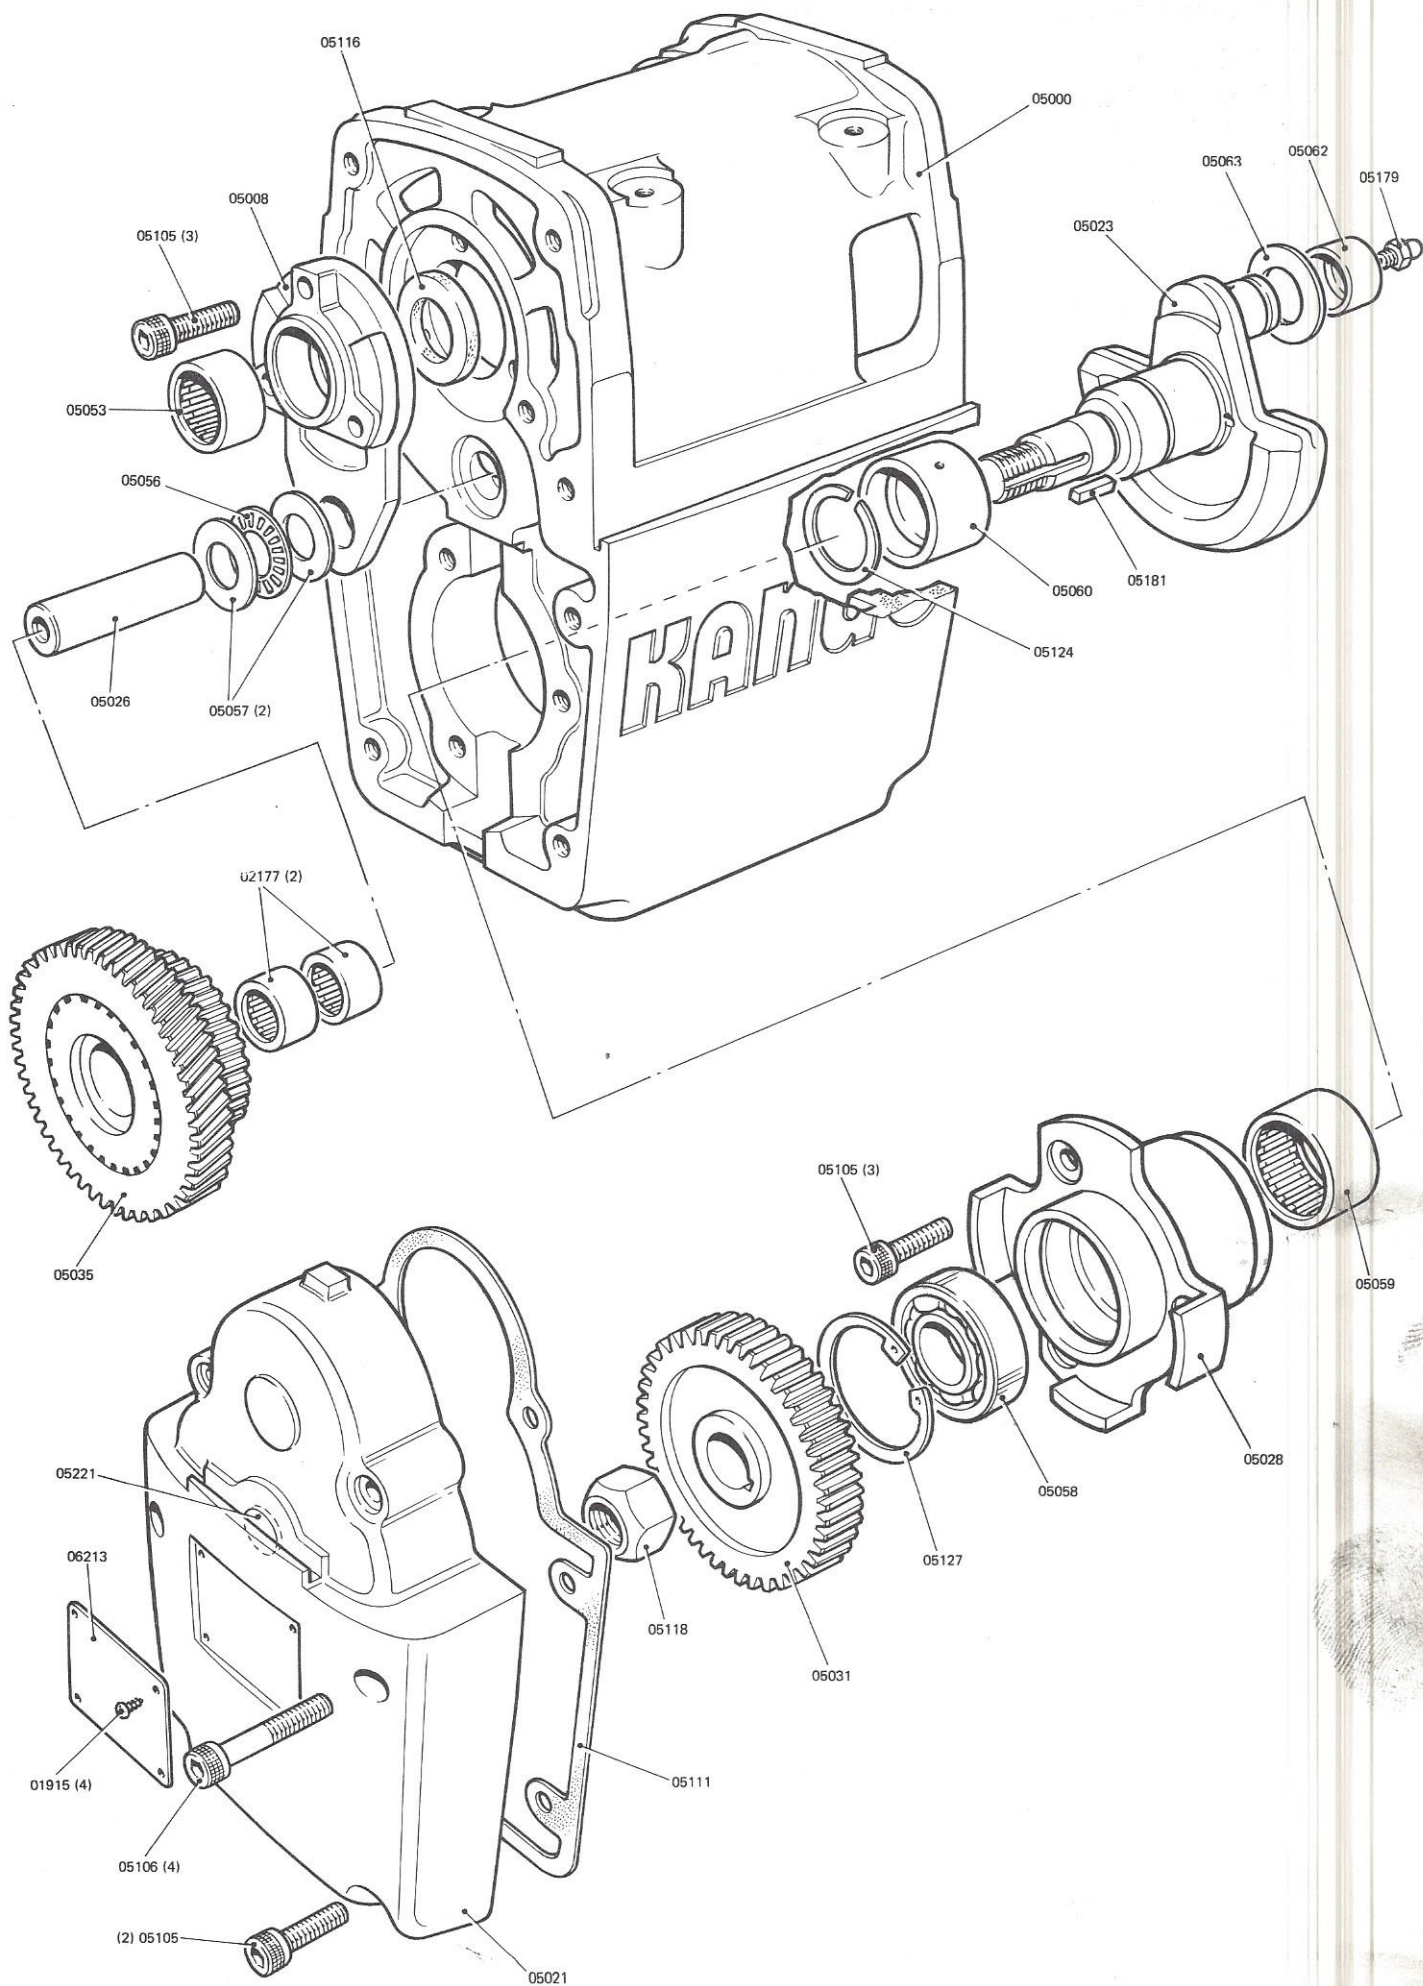

Figure 27 Main Casting, Gearbox and Crankshaft
17.3 Main Casting, Gearbox and Crankshaft (see Figure 27)
- †01915 Screw (4)
- †02177 Needle Roller Bearing (2)